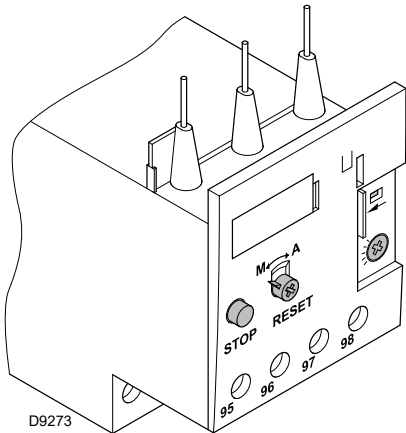

Fig. 38
The electro-mechanical thermal relay (Fig. 38) is used to avoid damage to the motor owing to a strong increase in absorption or the lack of a phase.
- To reset, in the case of an intervention of the thermal relay, press the button "RESET" (Fig. 38).
- The button "STOP" (Fig. 38) opens the NC (95-96) contact and stops the motor.